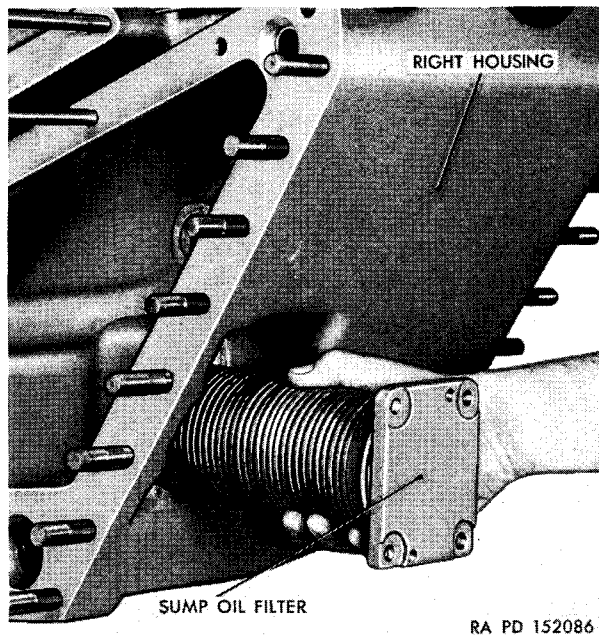

Figure 347. Installing sump oil filter.
- (3) If it is necessary to disassemble the piston assembly, remove the cotter pin from the nut. Place the assembly in an arbor press and depress the spring-retainer plate. Remove the nut using a $\frac{3}{8}$ -inch wrench. Gradually reduce the pressure on the spring. Remove the retainer plate and spring from the piston and guide assembly. Replace any defective parts.
- (4) To assemble, install the spring on the piston. Install the spring-retainer plate and the nut. Turn the nut down against the retainer plate until the cotter pin can be installed. Install the cotter pin. Install the piston assembly in the accumulator body, being careful not to roll the lip of the seal ring. Compress the spring and install the retaining snap ring.
a. Place the right housing, top side up, on the assembly table. Install the sump oil filter making sure the "O" ring gasket is in place on the filter assembly (fig. 347). Secure the filter assem-